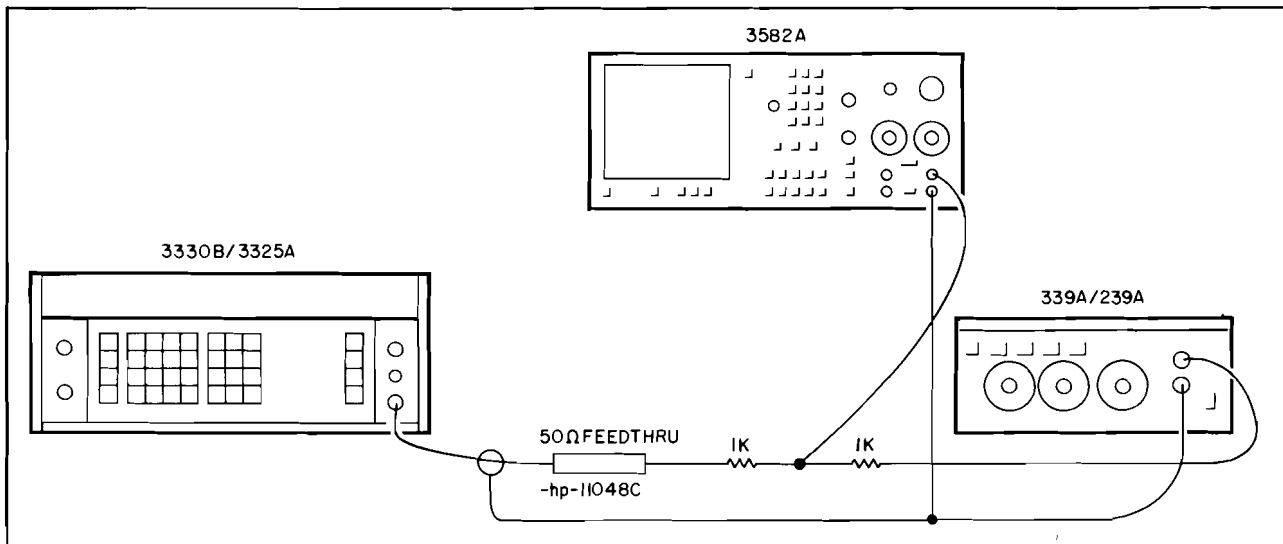
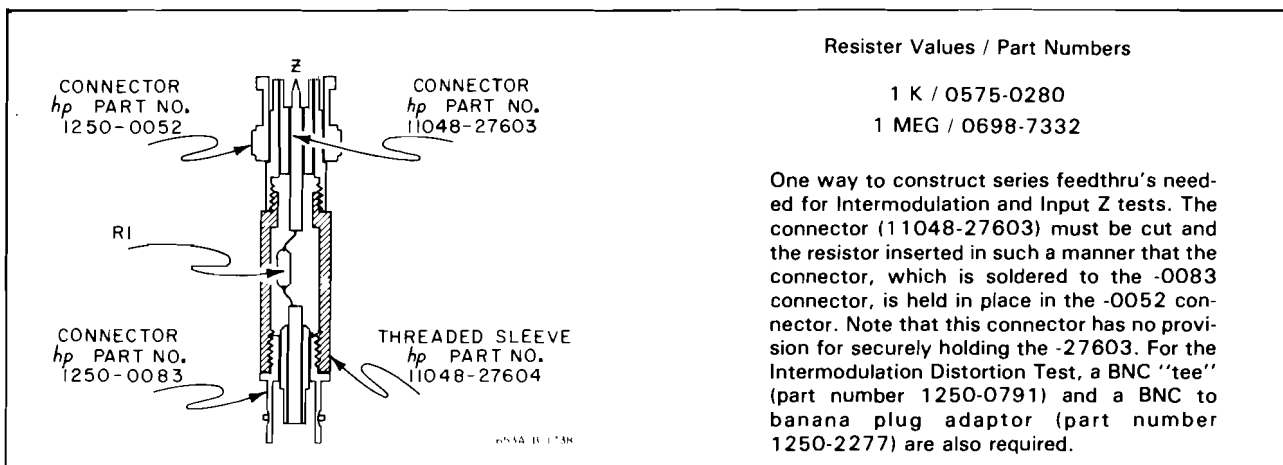

Figure 4-5. Test Set-up Intermodulation Distortion.
Figure 4-6. Constructing A Feedthrough Load.
- b. The **Intermodulation Distortion** test requires the use of 1K ohm isolation resistors (see Figure 4-6). A small box with the appropriate connectors works well for this. Note that the 50 ohm termination required for the synthesizer must come before the isolation resistor. (Also see Figure 4-5).
- e. The **Input Z** (impedance) test requires a 1 meg series load. This load must come after the 50 ohm termination required for the synthesizer. (See Figure 4-5.)